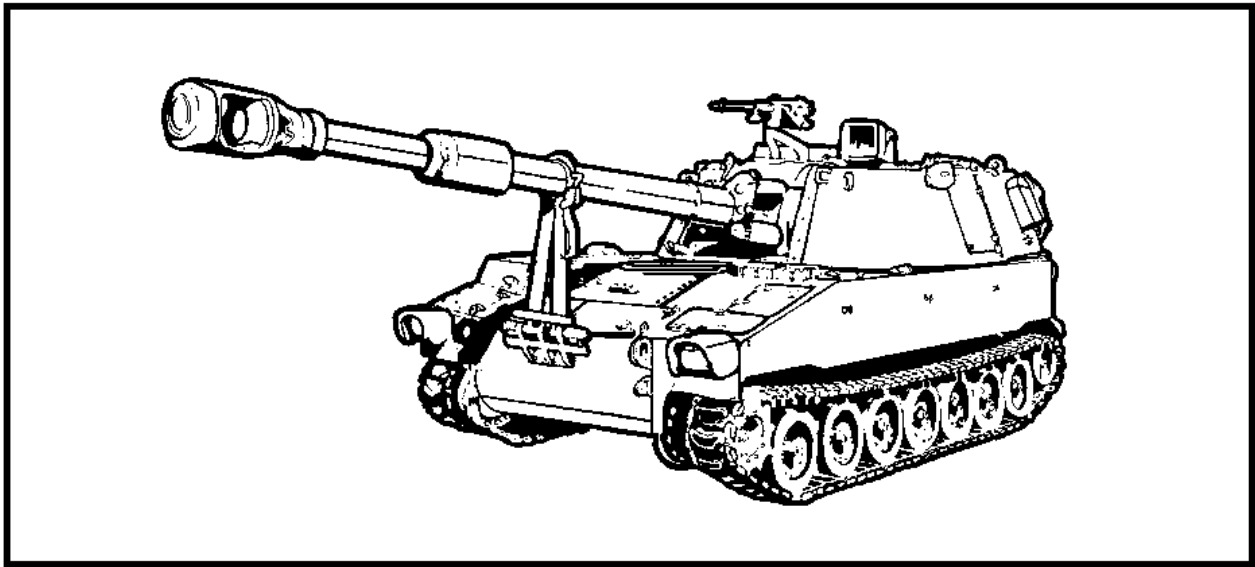

Figure 12. 155-mm self-propelled M109A2/A3 howitzer.
a. Description. The 155-mm M109A5/A6 (Figure 12), which is an armored, self-propelled, medium howitzer, is a highly mobile combat support weapon. It has a cruising range of 220 miles at speeds up to 35 miles per hour. Combat loaded, the weapon weighs 55,000 pounds. The M109A5/A6 is equipped with the longer M185 cannon and achieves a range of 18,100 meters (with the RAP round, 23,500 meters). The weapon is equipped with a 24-volt electrical system, with four 12-volt batteries connected in series-parallel. A hydraulic system provides power for traversing and elevating the cannon, for ramming the projectile, and for the equilibrator system.